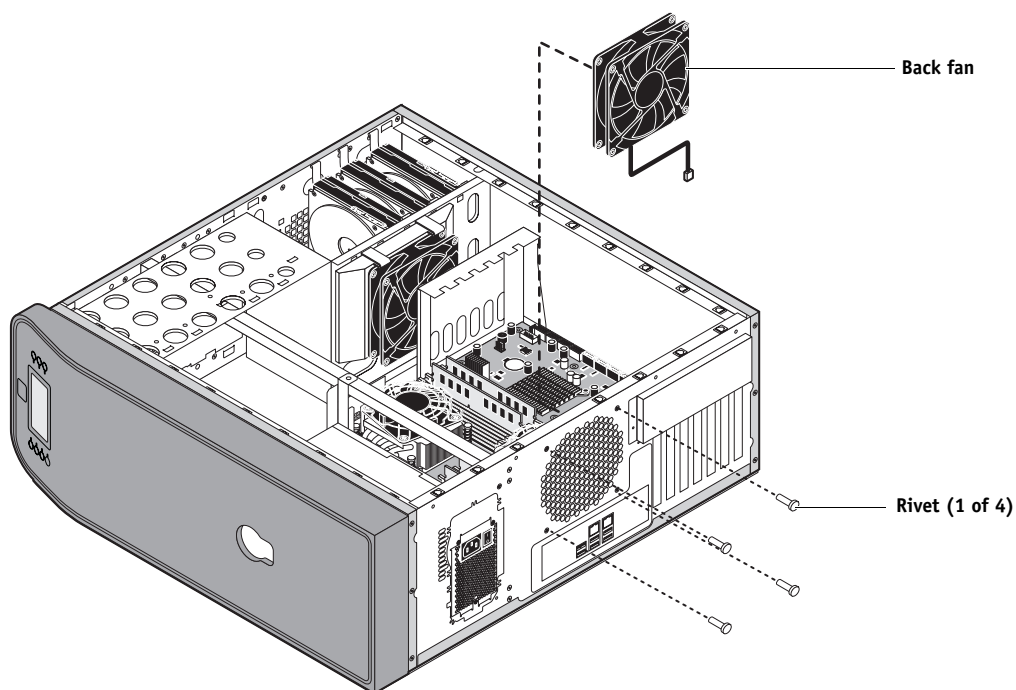

FIGURE 39: Removing/replacing the back fan
3. **Align the four holes on the fan with the four holes in the chassis, and replace the four rivets that secure the fan to the chassis (see Figure 39 on page 113).**